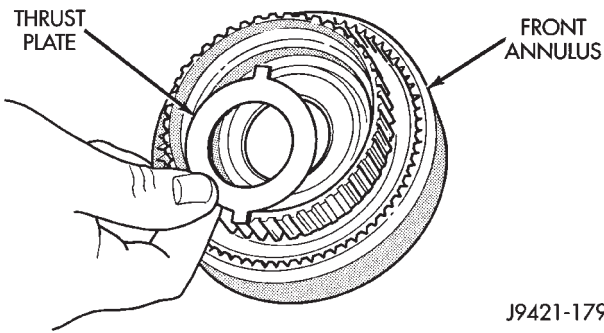

Fig. 96 Positioning Thrust Plate On Annulus Support
(18) Position thrust plate on front annulus gear support (Fig. 96). **Note that plate has two tabs on it. These tabs fit in notches of annulus hub.**
(19) Install thrust washer in front annulus (Fig.